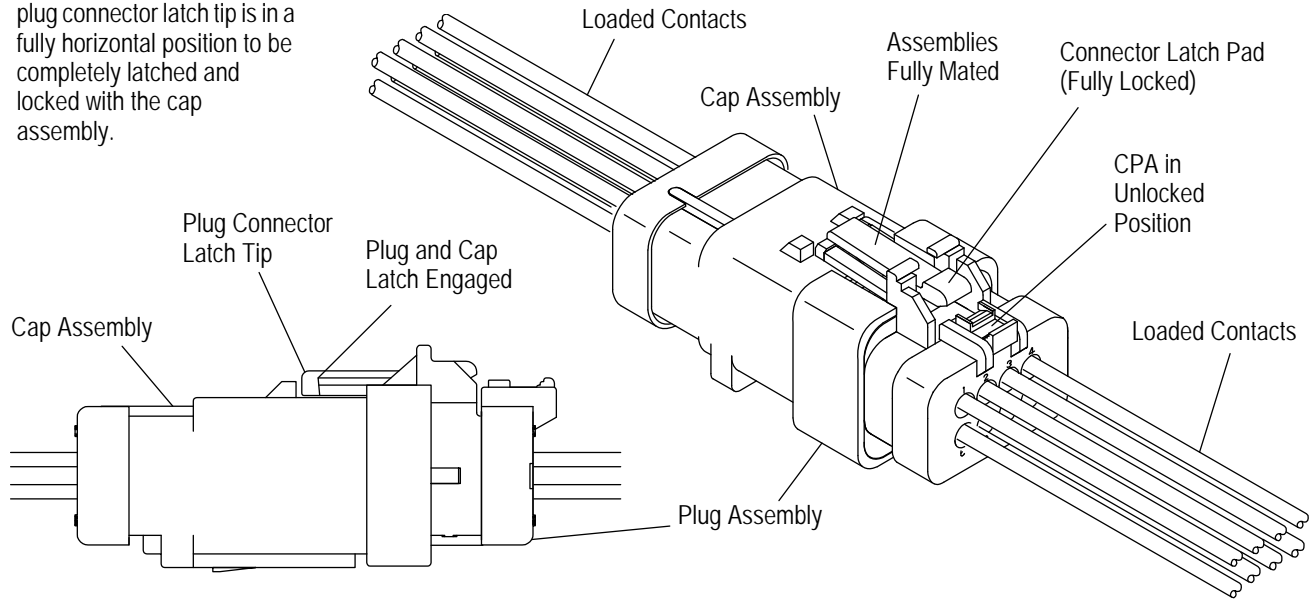

Figure 6
6. When all the contacts have been locked securely into the housing assemblies, complete the assembly of the connector system by mating the plug assembly with the cap housing assembly or pc board mounted header until the connector latch is in the fully locked position. An audible "click" will be heard. See Figure 6.